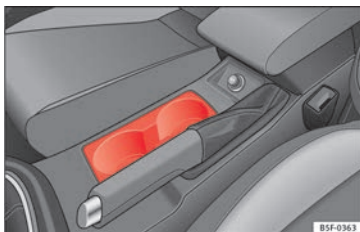

Fig. 115 Centre console: front drink holders.
- Place drinks in the holder » **Fig. 115**. Placement of two drinks is possible. There is also the possibility of placing larger plastic bottles in the trims of the doors.